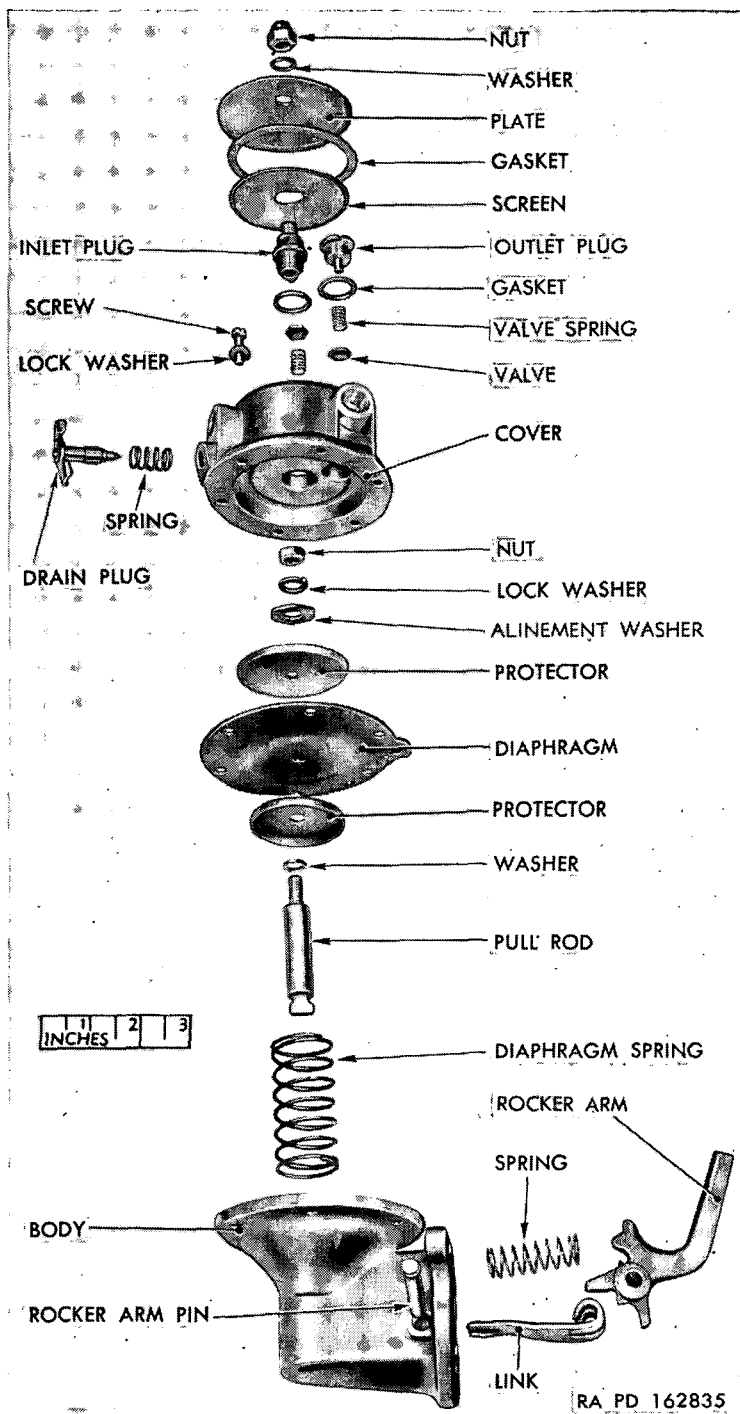

Figure 9. Fuel pump—disassembled (typical series G construction).
- (1) Mark edges of top cover and body (fig. 9) of series G fuel pump (fig. 8) with a file. Mark at heat shield stud, if used.
### *a. Assemble Body (fig. 9).*